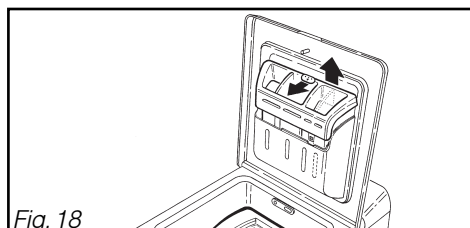

Fig. 18
- Push the button forwards and **pull the dispenser upwards** (Fig. 18).